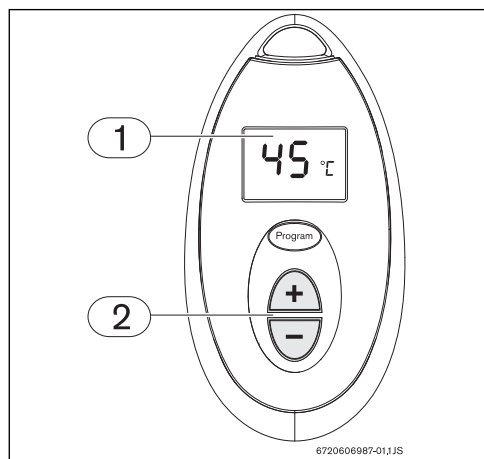

Fig. 13 Temperature adjustment
- Press the buttons  or  on the remote control (Fig. 13 , [pos. 2]) until the required temperature appears on the remote control display (Fig. 13, [pos. 1]).